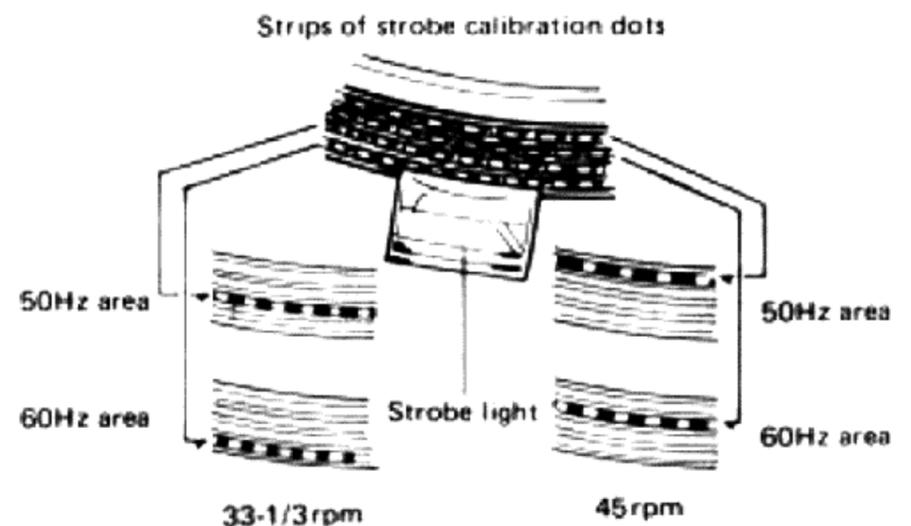

Fig. 13
4. Observe the appropriate strip of strobe calibration dots on the platter edge (Fig. 13).